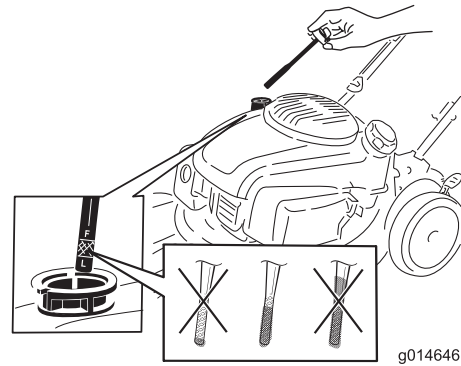

Figure 11
2. Remove the dipstick and check the oil level (Figure 11). If the oil level is below the Add mark on the dipstick, **slowly** pour oil into the oil-fill tube to raise the oil level to the Full mark on the dipstick. **Do not overfill.** (Max. fill: 0.53 L (18 oz), type: 10W-30 or SAE 30 detergent oil with an API service classification of SJ or higher.)
1. Remove the dipstick, wipe it clean, and insert it into the oil-filler neck, but **do not** screw it in (Figure 11).